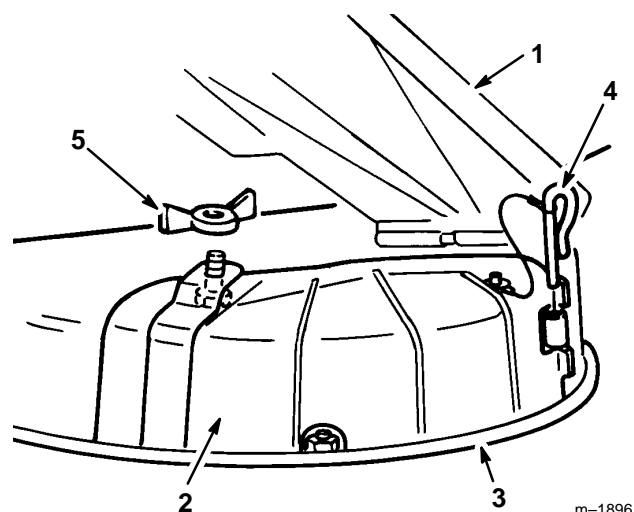

Figure 12
2. Lift the grass deflector and place the discharge cover over the opening onto the lower lip of the mower and slide into the front hinge (Fig. 12).
3. Slide the hinge pin through the hinge (Fig. 12).
4. Secure the discharge cover to the mower with the wing nut (Fig. 12).